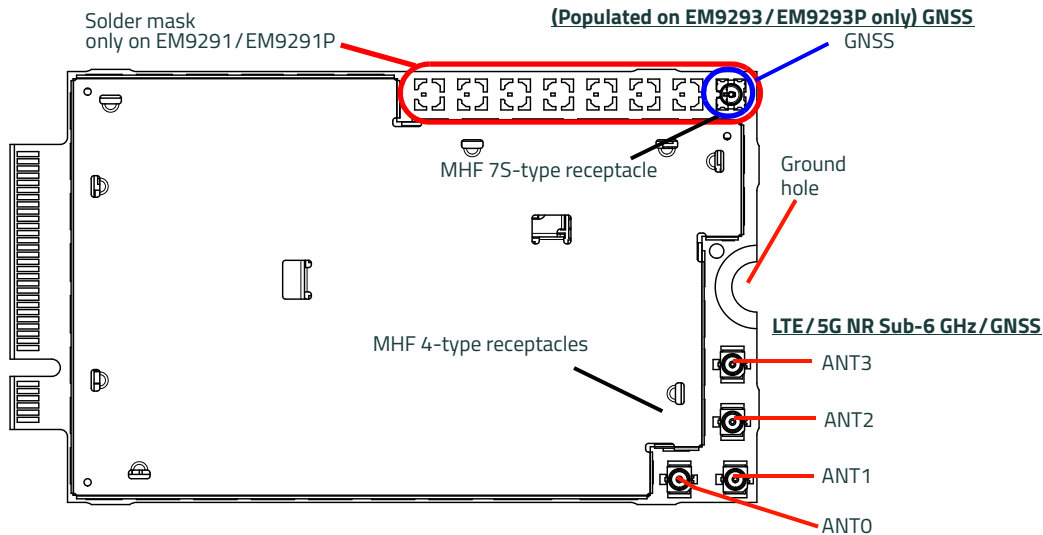

Figure 3-1: EM929X Module RF Receptacles
- Connect to system ground using the ground hole shown in Figure 3-1 on page 40.